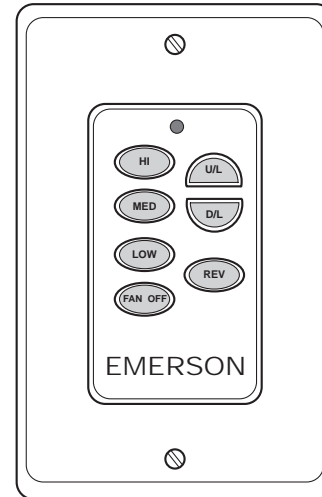

Figure 21
Your SW116 Fan/Light Wall Control (Figure 21) has full control of your fan, lights, and airflow direction.
1. To set the desired fan speed, press the HI, MED, or LOW buttons to operate your fan on high, medium, or low speed (Figure 21).